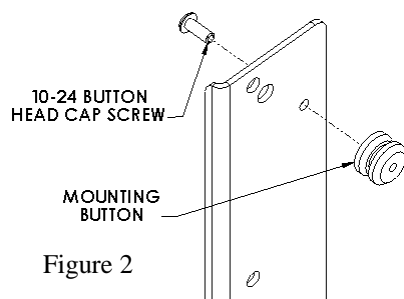
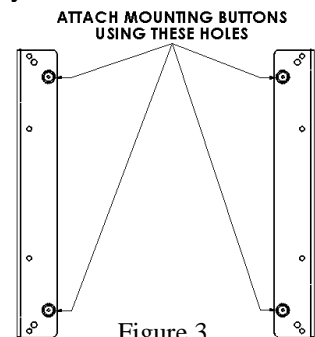

Figure 2
Figure 3
1. Using a 10-24 button head cap screw inserted from back side of bracket, secure mounting button, with chamfered hole of mounting button (larger surface) facing bracket, to bracket (four places) (see Figure 2 & Figure 3). Make sure bends of interface bracket face away from buttons.